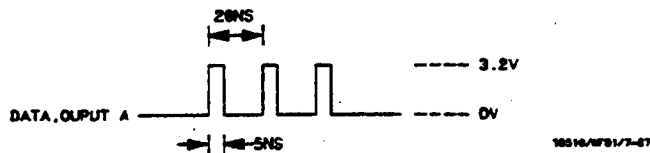

Figure 3-34. Pulse Generator Waveform For Glitch Test
- Set the pulse generator as follows for the output shown in figure 3-34.